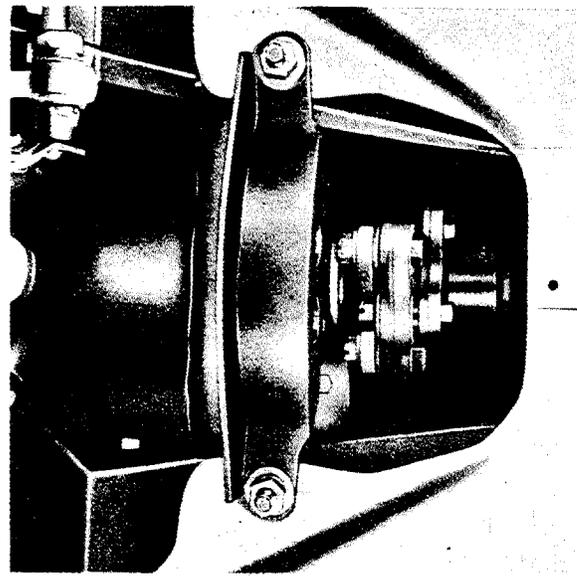

Fig. M 1a/9
12. Lift car somewhat (with a lifting rig, if available), support transmission, unscrew rear engine mount (see Fig. M 1a/9) and attach caster wheel (Fig. M 1a/12).